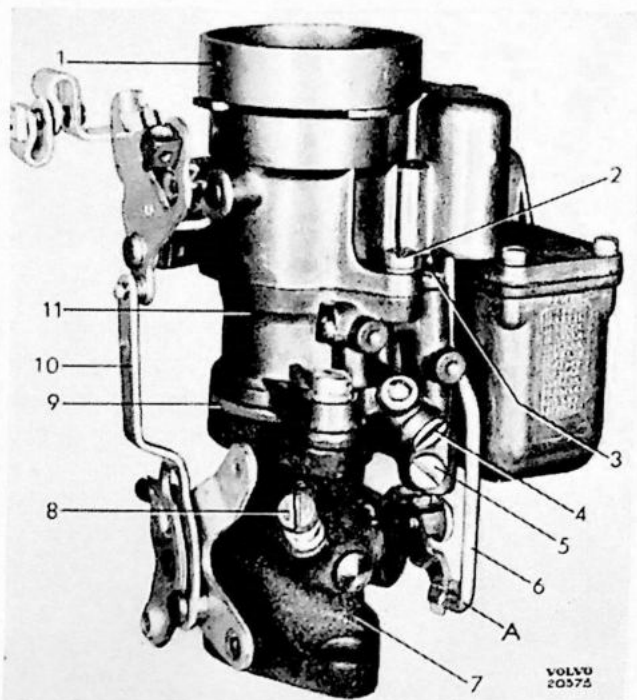

Fig. 87.
Disconnect connector rods (6 and 10, Fig. 87), remove air horn (1) from main body (11), and four screws securing float bowl cover and take
with throttle valve fully closed and wide open, should be 9/64" = 3.5 mm. Adjust by bending connector rod at A, Fig. 87.